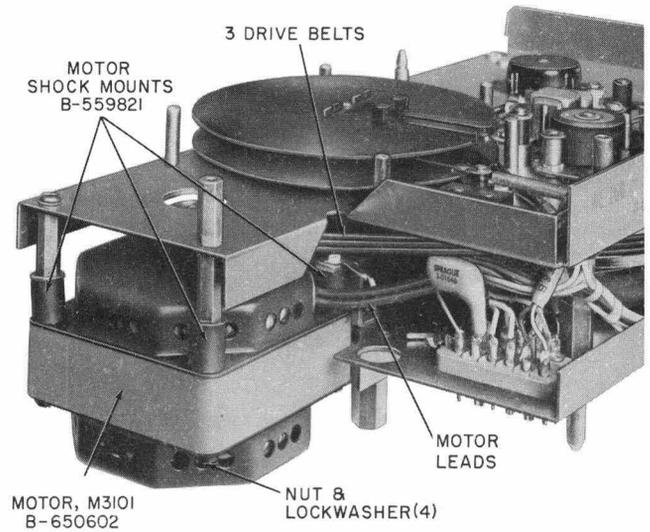

Fig. 6 — Motor, KS-19671 L1 Recorder-Reproducer
- (c) Remove the 4 nuts and lock washers at corners of motor (Fig. 6).